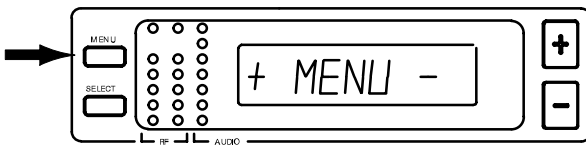

FIGURE 11
2. Press the MENU button. The “+ MENU -” display appears, as shown in Figure 11.